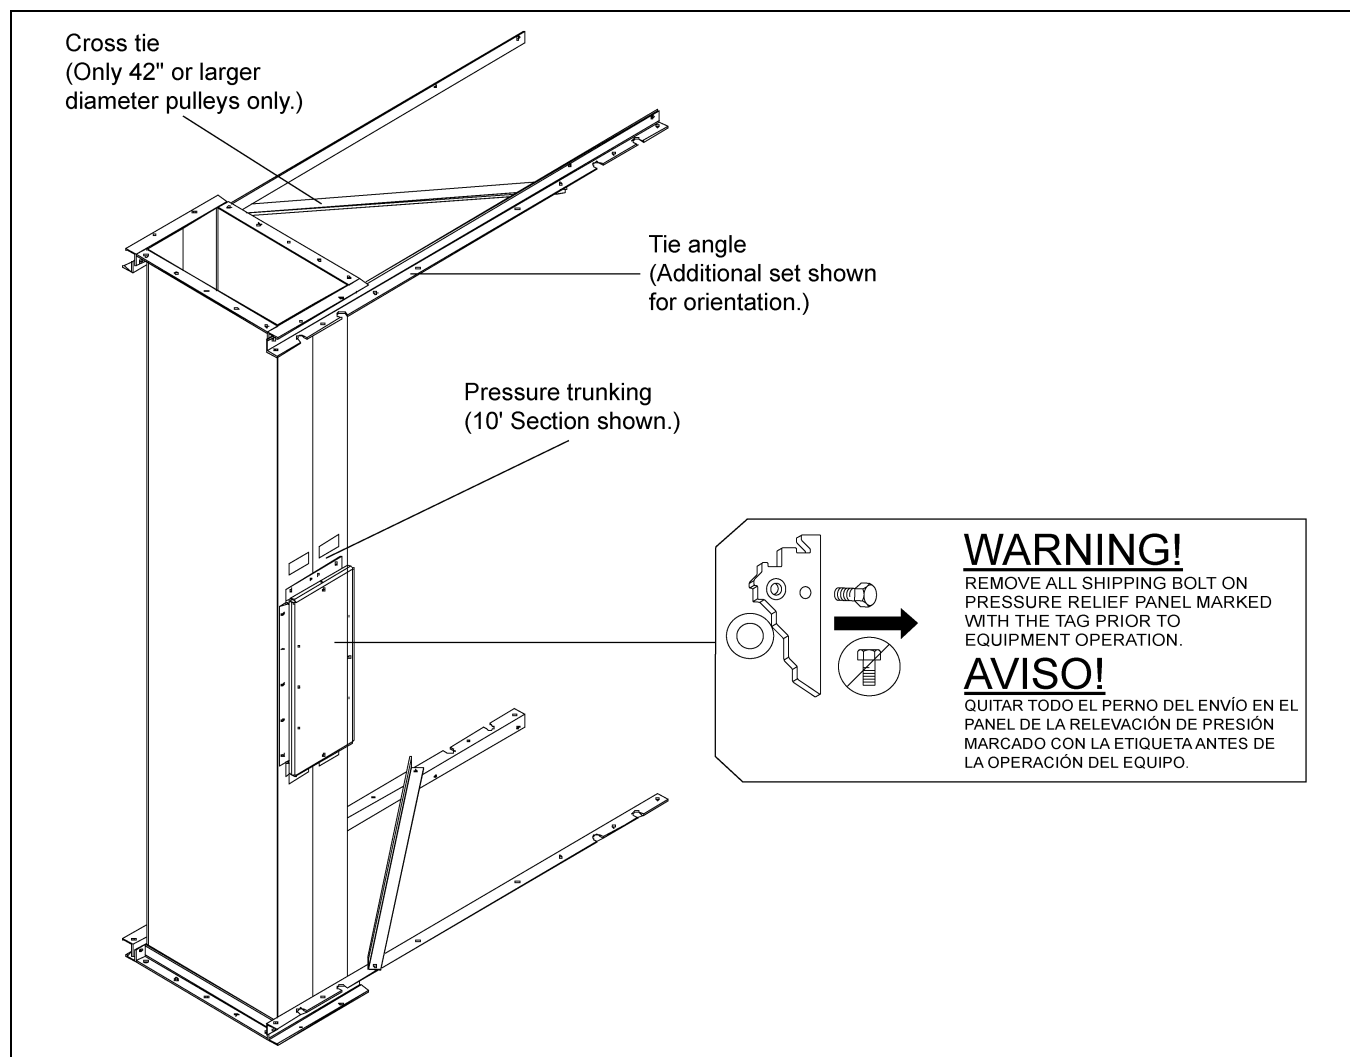

Figure 7C Pressure Relief Trunking
2. Two (2) tie angles are included with the mounting hardware.
3. Systems utilizing 42" diameter and larger pulleys require the installation of a cross tie located on the legs. *(See Figure 7C.)*